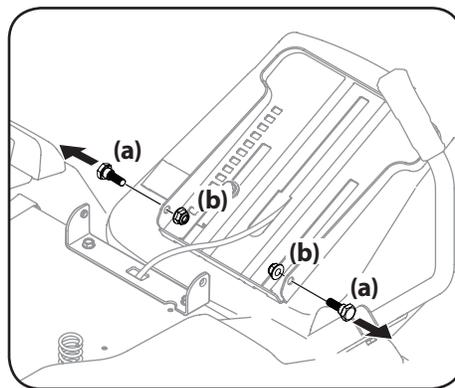

Figure 2-2
- Remove the two shoulder screws (a) and lock nuts (b) in the seat pan as shown in Figure 2-2.